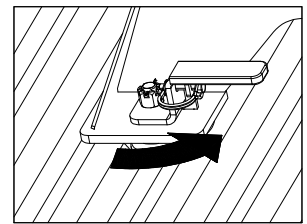

Figure C2:
- 2. Prepare to adjust latch tension.** Once the base is in place, remove the cotter pins from each of the four castle nuts. Engage the cams with each attachment point by turning the latch handles back to their locked position, see Figure C2. If a handle will not turn easily, loosen the castle nut until the cam will freely turn and engage the attachment point.